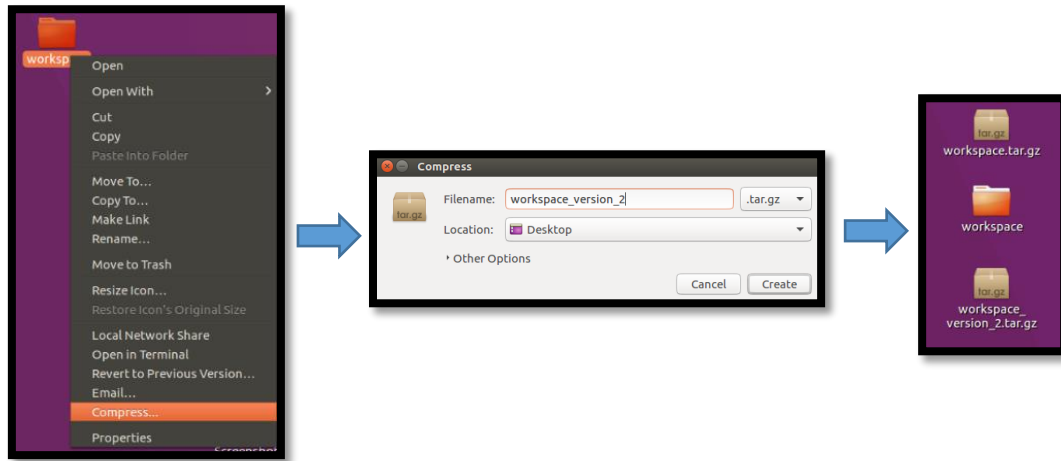

Figure 5: Compressing the workspace folder
- b. If you wish to copy entire workspace folder you will need to compress it first and then copy the compressed file. Follow Figure 5: Compressing the workspace folder to compress the workspace folder.